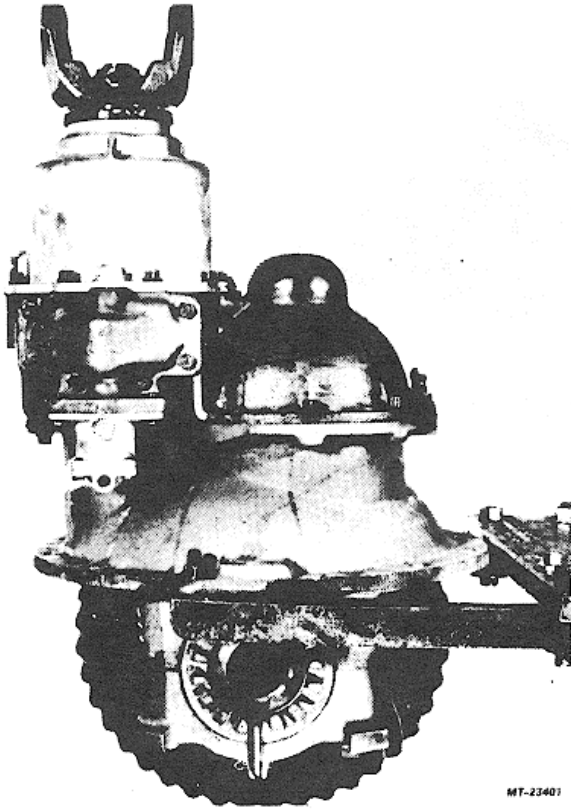

Fig. 2. Power Divider and Diff Carrier In Rebuild Stand
4. Roll jack and carrier assembly from under truck. Mount carrier assembly in suitable rebuild stand (Fig. 2).